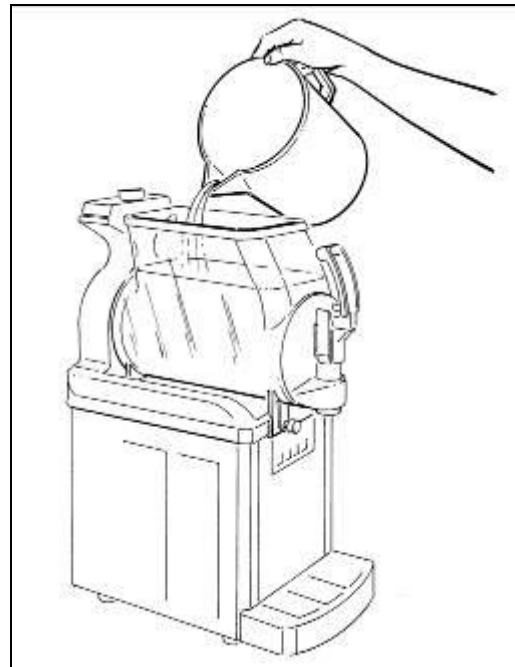

Fig. 23
- Pour the mix obtained into the bowl (see fig.23).